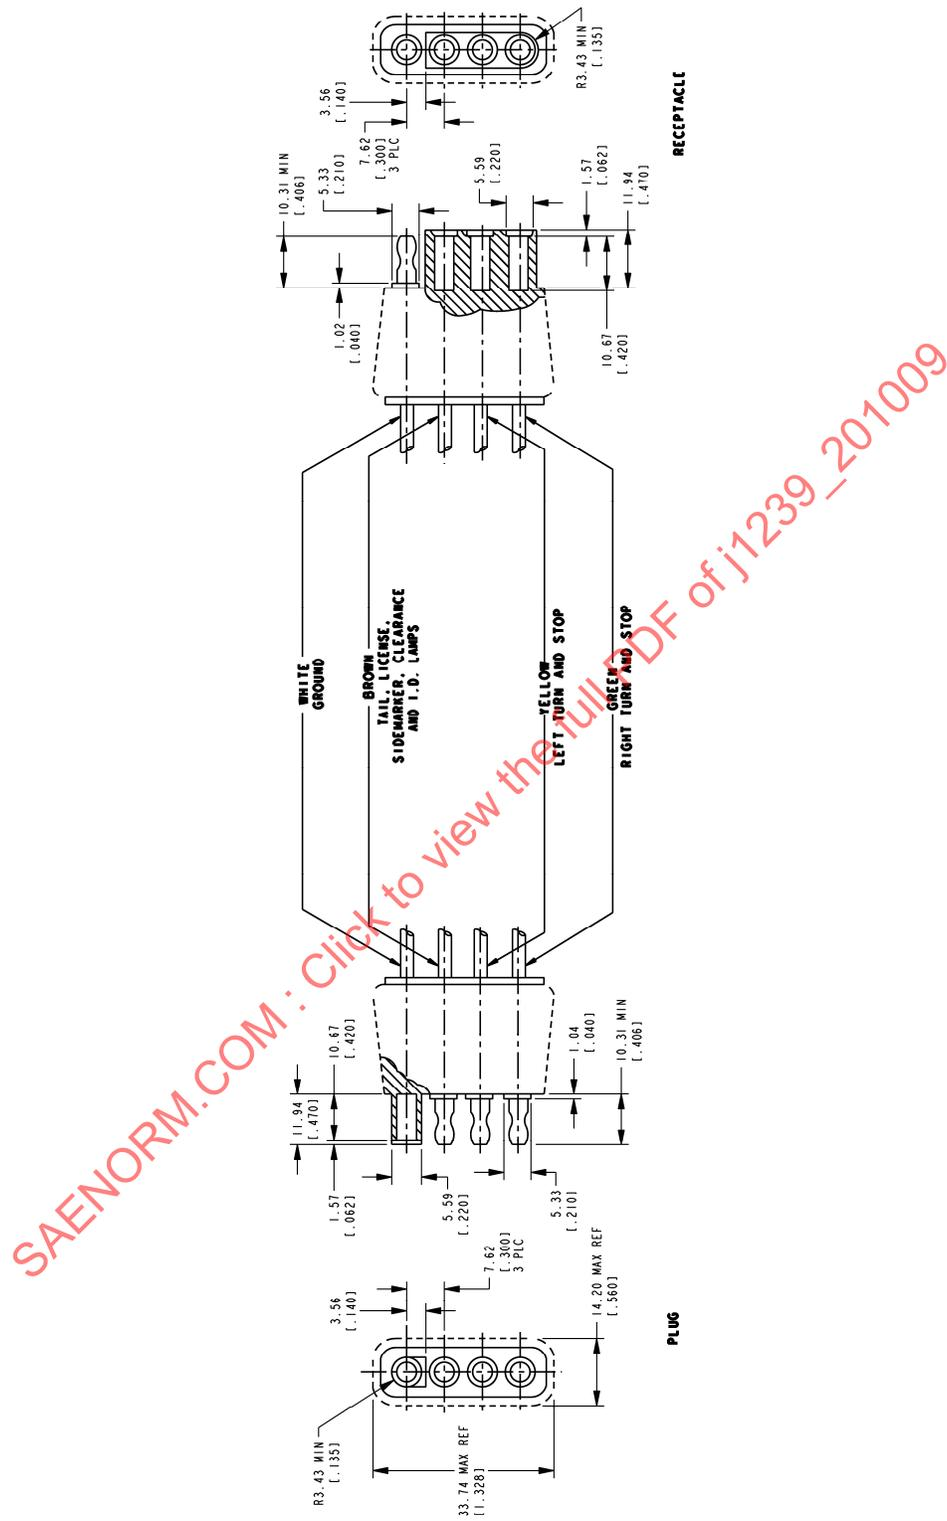
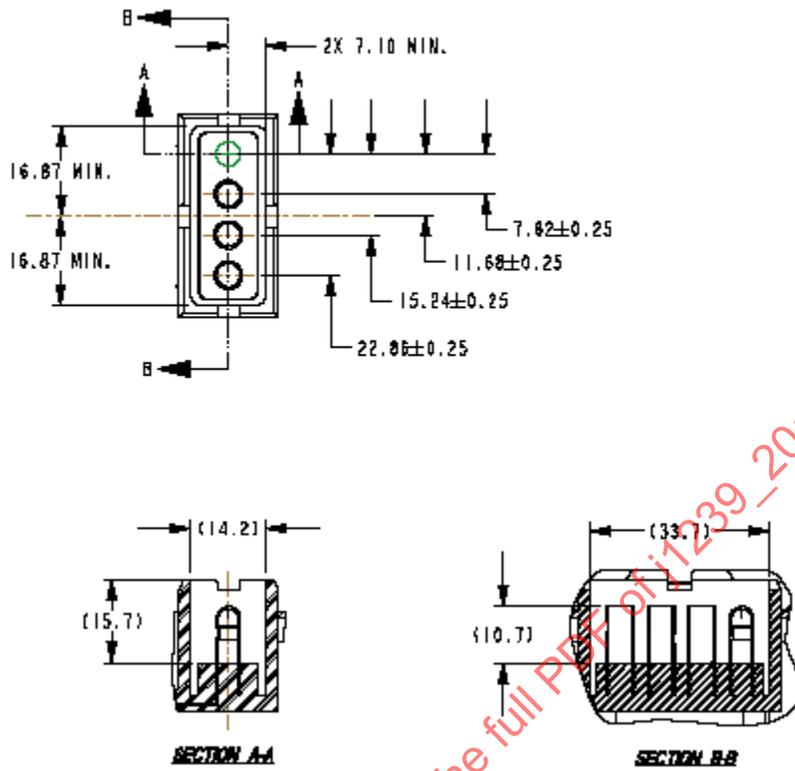
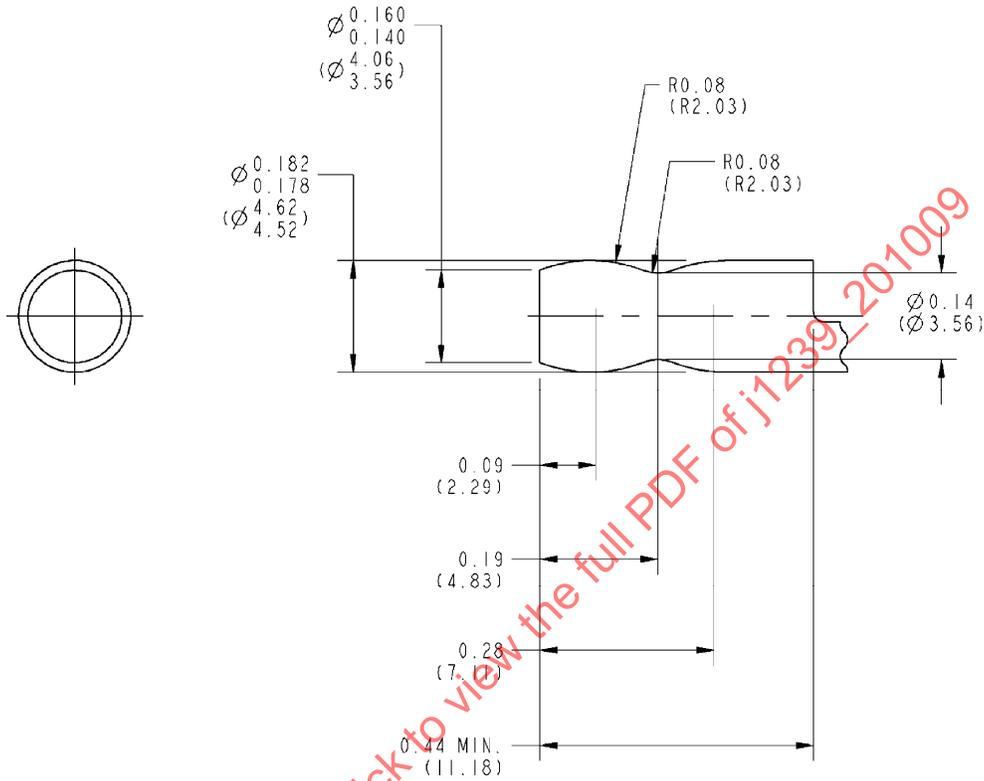

FIGURE 1 - FOUR WAY RECEPTACLE
FIGURE 1A - FOUR-WAY RECEPTACLE HARD SHELL VERSION
FIGURE 4 - PIN
The four-way towing vehicle receptacle shall be of the configuration and design dimensions shown in Figure 1 and color-coded as follows:
The four-way towed vehicle plug shall be of the configuration and design dimensions shown in Figure 1 or Figure 1A and color coded as follows:
- 6.1 The receptacle and plug shall be made of an insulating material such that they can be processed to provide the spacing and splash protection indicated in Figures 1, 2, and 3.
- 6.4.1 The terminal pins and receptacles sockets shown in Figures 1, 2, and 3 shall conform to the size and type shown in SAE J928, Table 1 - Type 1 Pin Terminals with a nominal diameter of 4.57 mm (0.180 in). Detailed pin and receptacle dimensions are illustrated in Figures 4 and 5.